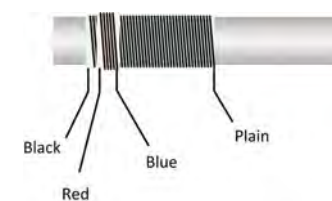
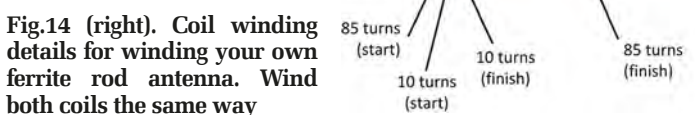

Fig.13 (left). Connections to the Rapid ferrite rod antenna
Fig.14 (right). Coil winding details for winding your own ferrite rod antenna. Wind both coils the same way
The ferrite rod antenna that forms the inductive part of the tuned circuit was mounted using two spring clips and grommets to the base plate. This component can be supplied as a ready wound transformer (Rapid part 88-3099 – see Fig.13) or can be wound on a small ferrite rod recovered from an old radio. When winding your own ferrite rod antenna it is advisable to wind the coil assembly (T1) on a tube so that it can slide along the rod in order to locate the optimum position for the required frequency coverage. You will need at least 85 turns of insulated wire for the main (tuned) winding and 10 turns over-wound for the secondary winding, as shown in Fig.14. You must wind both coils with the same sense.
sensitivity is obtained (see Fig.13 for the position that we used).
- 1 ferrite rod radio aerial (eg. Rapid 88-3099) (T1) (see text and Fig.13)